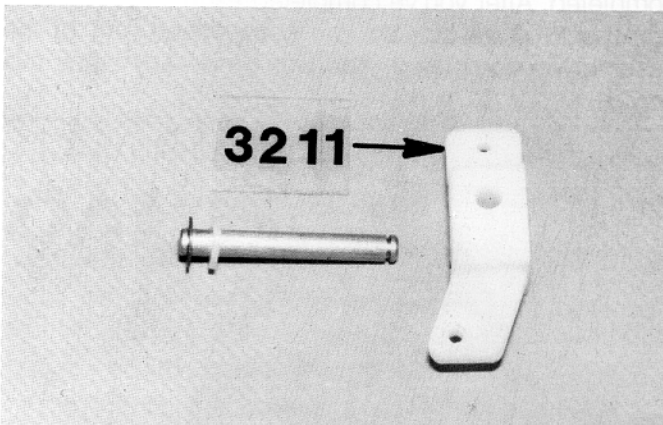

Fig. 3
□ **Fig. 3**—The axles should now look like this.